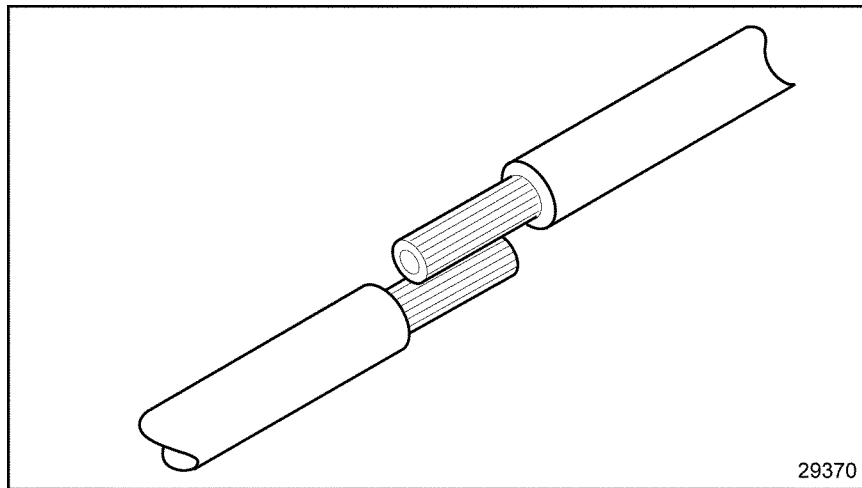

Figure 3-31 **Positioning the Leads**
1. Position the leads, so one overlaps the other. See Figure 3-31.